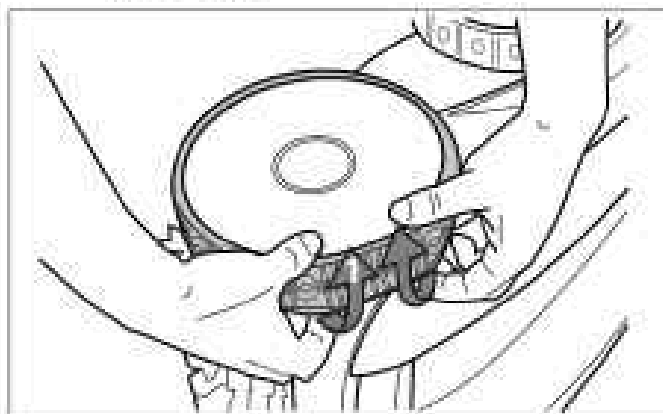

Figure 31. Pull the Old Tire Over the Wheel
1. Pull on the inside of the old tire to remove the tire lip from the wheel (Figure 31).